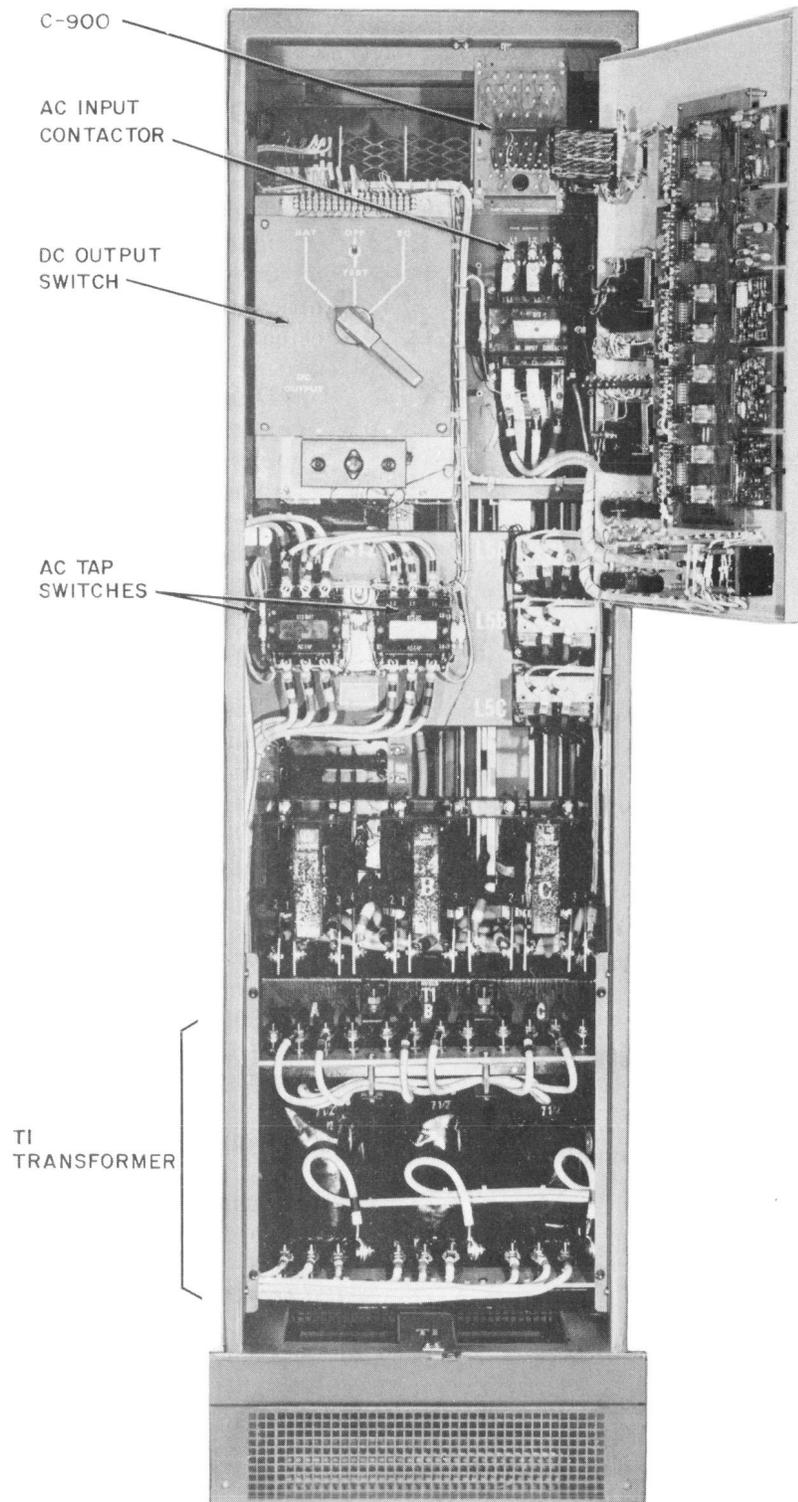

Fig. 1—KS-20490 Rectifier—Front View With Control Panel Open
**1.01** The KS-20490 rectifiers provide an isolated, filtered, and regulated dc voltage for automatically floating and charging battery plants. The rectifiers are initially intended for use in the 100- and 300-type power plants but may be used whenever their characteristics and design apply. See Fig. 1 and 2.